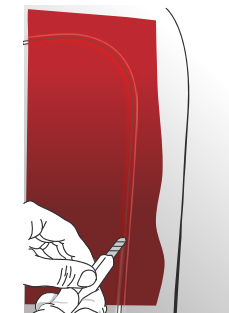

Figure 14
- › Carry out the cutting of the film by using a cutter on the TIRODECO or by cutting it with the WRAPKNIFE cutting thread. (FIG. 14)